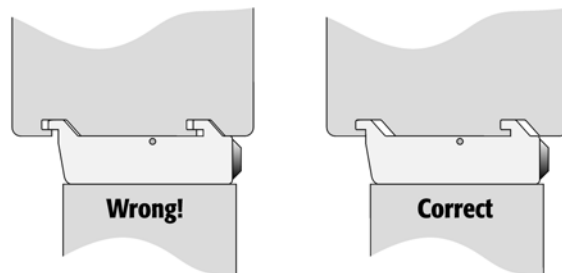

Figure 5. Attachment of Mounting Claws
- 4 Double check if the legs and stack claws are correctly attached to the X Crossrail (see Figure 5, following page).
- 4 Double check if the Stack clamps are correctly attached to the X Crossrail (see Figure 5).
- 4 Double check if the two Trayholder clamps are correctly attached to the X Crossrail (see Figure 5, page 19).